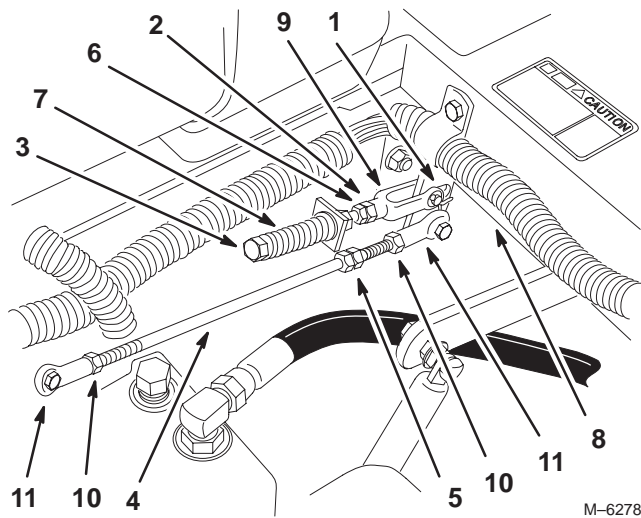

Figure 57
- Move the lever to the neutral position but **not locked** (Fig. 57).
- Pull lever back until the clevis pin (on arm below pivot shaft) contacts the end of the slot (just beginning to put pressure on the spring) (Fig. 57).
- If adjustment is needed, loosen the nut and jam nut against the yoke (Fig. 57).
10. Tighten the nut and jam nut (Fig. 57).
1. Loosen the locknuts at the ball joints on pump control rod (Fig. 57).
3. Adjust the pump rod length by rotating double nuts on rod, in the appropriate direction, until wheel is still or slightly creeps in reverse (Fig. 57).
6. Tighten the locknuts at the ball joints (Fig. 57).